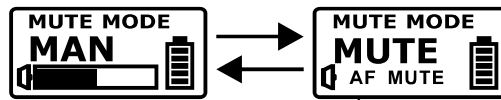

Fig. 20 AF MUTE blinks
- (2) MAN: the mute function is controlled by MUTE button. Fig. 20